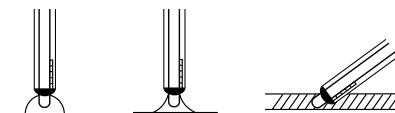

Figure 1 **Figure 2** **Figure 3**
- The reference junction of the electrode must make contact with the sample solution. See **Figure 1**. When the electrode touches the surface of a liquid, the surface tension of the liquid result in contact with the reference junction. See **Figure 2**. To measure gel thicknesses less than 1.5 mm, the electrode can be held at an angle so the reference junction touches the gel. See **Figure 3**. The reference junction is on the same side of the electrode as the fill hole.